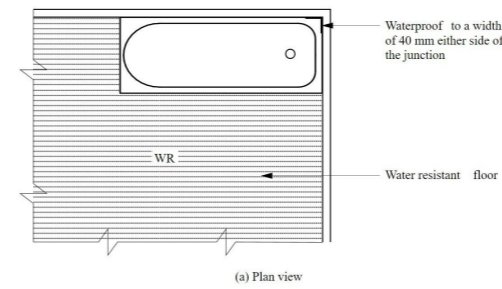

FIGURE 10.2.4B
- (1) FOR AREAS ADJACENT TO ALL BATHS AND SPAS, THE FOLLOWING APPLIES:
- (A) FOR CONCRETE, COMPRESSED FIBRE-CEMENT AND FIBRE CEMENT SHEET FLOORING, THE FLOOR OF THE ROOM MUST BE WATER RESISTANT.
- (B) FOR TIMBER FLOORS INCLUDING PARTICLEBOARD, PLYWOOD AND OTHER TIMBER BASED FLOORING MATERIALS, THE FLOOR OF THE ROOM MUST BE WATERPROOF.
- (C) TAP AND SPOUT PENETRATIONS MUST BE WATERPROOF WHERE THEY OCCUR IN HORIZONTAL SURFACES.
- (2) FOR AREAS ADJACENT TO NON-FREESTANDING BATHS AND SPAS, THE FOLLOWING APPLIES:
- (A) WALLS MUST BE WATER RESISTANT (SEE FIGURE 10.2.4A AND FIGURE 10.2.4B)
- (I) TO A HEIGHT OF NOT LESS THAN 150 MM ABOVE THE VESSEL, FOR THE EXTENT OF THE VESSEL, WHERE THE VESSEL IS WITHIN 75 MM OF A WALL; AND
- (II) FOR ALL EXPOSED SURFACES BELOW VESSEL LIP.
- (B) WALL JUNCTIONS AND JOINTS MUST BE WATER RESISTANT WITHIN 150 MM ABOVE A VESSEL FOR THE EXTENT OF THE VESSEL.
- (C) WALL/FLOOR JUNCTIONS MUST BE WATERPROOF FOR THE EXTENT OF THE VESSEL (SEE FIGURE 10.2.4A AND FIGURE 10.2.4B).
- (3) FOR INSERTED BATHS AND SPAS, THE FOLLOWING APPLIES:
- (A) FOR FLOORS AND HORIZONTAL SURFACES: (I) ANY SHELF AREA ADJOINING THE BATH OR SPA MUST BE WATERPROOF AND INCLUDE A WATERSTOP UNDER THE VESSEL LIP.
- (II) THERE ARE NO REQUIREMENTS FOR THE FLOOR UNDER A BATH OR SPA.
- (B) FOR WALLS:
- (I) WATERPROOF TO NOT LESS THAN 150 MM ABOVE THE LIP OF A BATH OR SPA.
- (C) FOR WALL JUNCTIONS AND JOINTS, THE FOLLOWING APPLIES:
- (I) WATERPROOF JUNCTIONS WITHIN 150 MM OF A BATH OR SPA.
- (II) THERE ARE NO REQUIREMENTS FOR JUNCTIONS AND JOINTS IN WALLS BENEATH THE LIP OF A BATH OR SPA.
- (D) TAP AND SPOUT PENETRATIONS MUST BE WATERPROOF WHERE THEY OCCUR IN HORIZONTAL SURFACES.